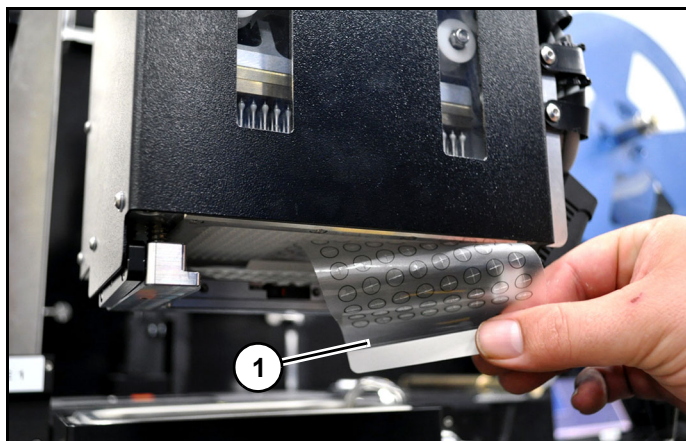

Figure 22
5. Cover bottom of head with a tacky surface (1) (*Figure 22*) that does not leave any residue.